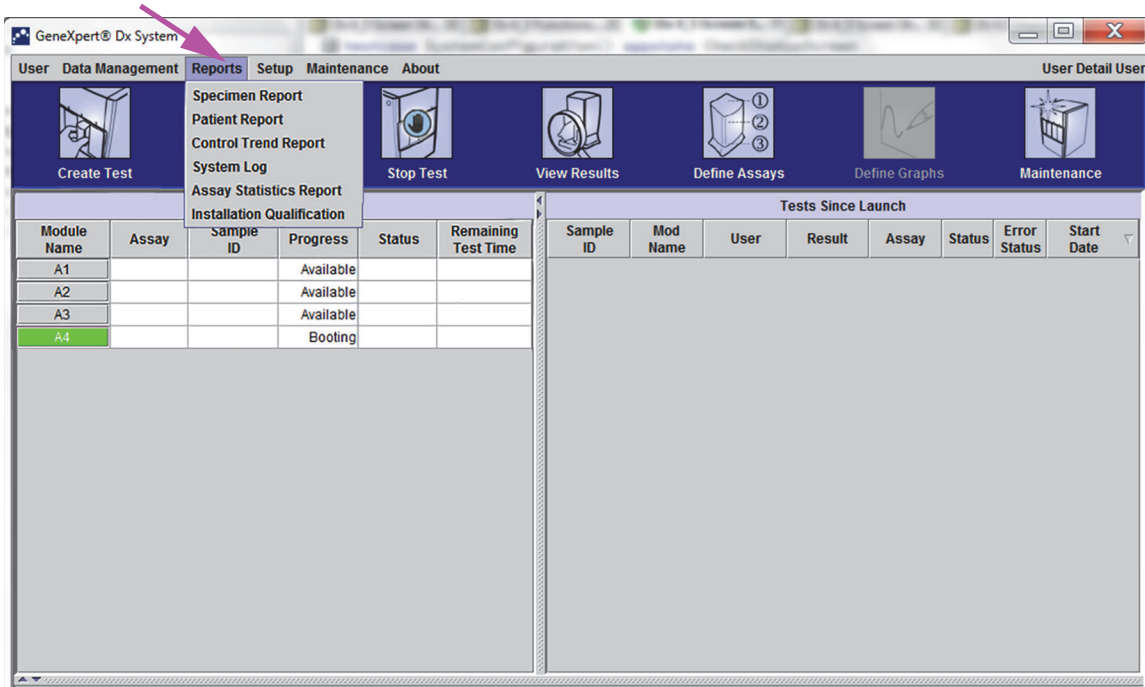
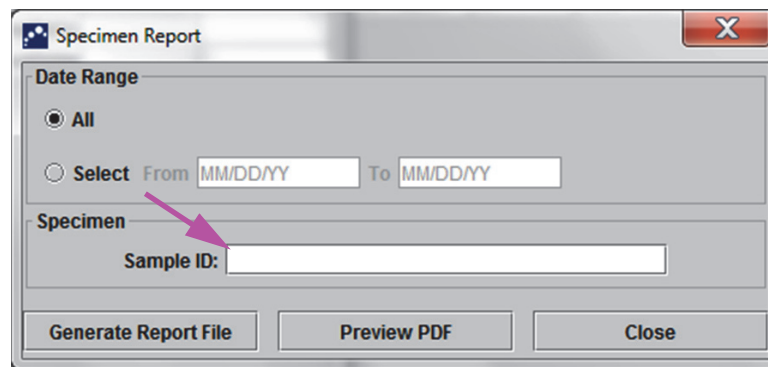

Figure 5-75. GeneXpert Dx System Window—Reports Drop-Down Menu
Figure 5-76. Specimen (Sample) Report Dialog Box
The **Reports** menu (see Figure 5-75) provides the following menu options:
1. In the GeneXpert Dx System window, on the **Reports** menu (see Figure 5-75), click **Specimen (Sample) Report**. The Specimen (Sample) Report dialog box appears. See Figure 5-76.
- 1) Click the **Generate Report File** button on the Specimen (Sample) Report screen (see Figure 5-76) to create the PDF file of the report. The Generate Report File dialog box will appear, which enables you to save the file to a specified location. Click **Save** once you have navigated to the specific location.
1. In the GeneXpert Dx System window, on the **Reports** menu (see Figure 5-75), click **Assay Statistics Report**. The Assay Statistics Report dialog box appears. See Figure 5-78.